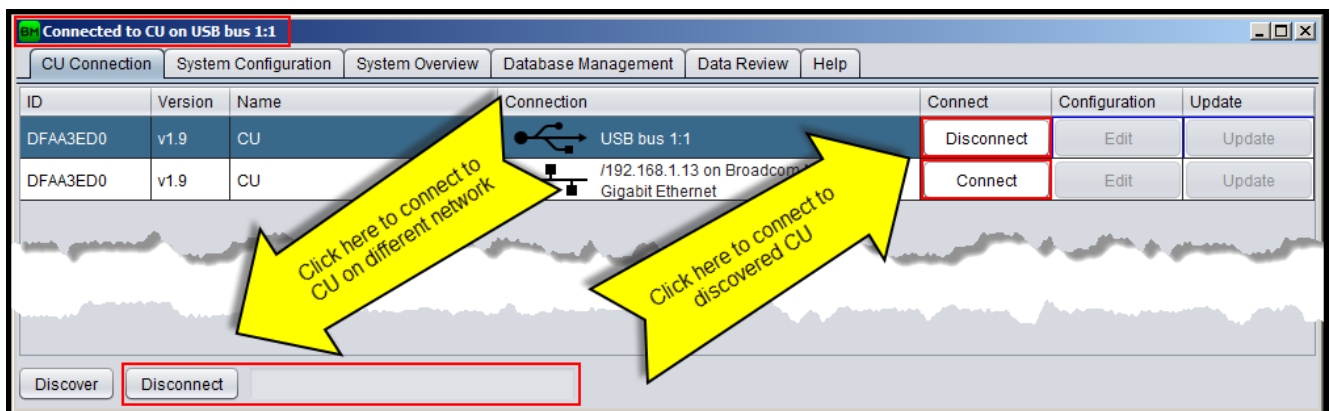

Figure 27: CU connection
- Connect to the CU pressing the **“Connect”** button. Once connected the windows title and icon changes as shown on Figure 27. Ethernet discovery only works if the CU and the PC are on the same LAN. In case the CU is not discoverable because not on the same LAN, the user must write the public address or name on the field on the page bottom and click on the **“Connect to:”** button.